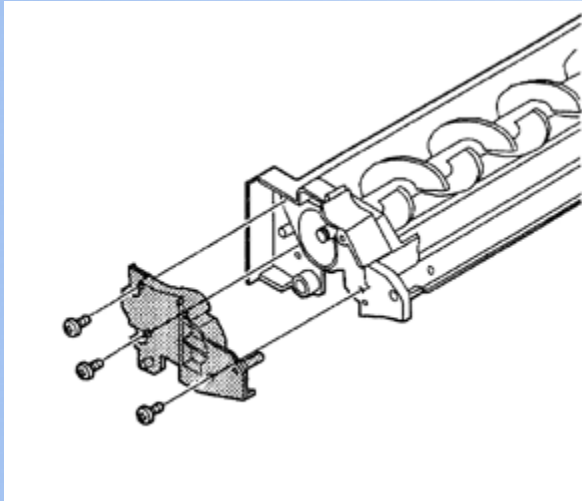

FIGURE 20
**NOTE:** The magnetic roller can be removed by removing the three screws on the left end cap. Remove the wire, spring and hub. The magnetic roller can now be removed. This is really not recommended at all as the hub is not in a fixed position. The hub's purpose is to position the roller for proper density. Unless the roller has been replaced or the unit was dropped, I would not do this, as the adjustment procedure is very tedious. The procedure is as follows: (See Figures 20, 21, & 22).